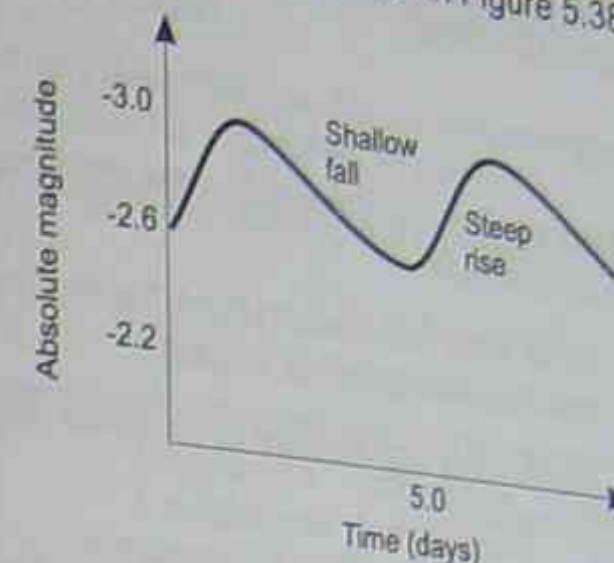

Figure 5.38
- (f) The light curve for the classical Cepheid variable δ -Cephei is shown in Figure 5.38.